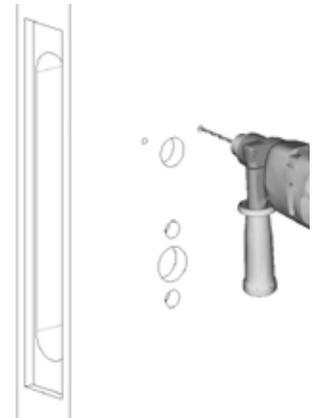

Figure 2
2. Drill two .125" diameter holes where marked, through inside door surface. (Figure 2)